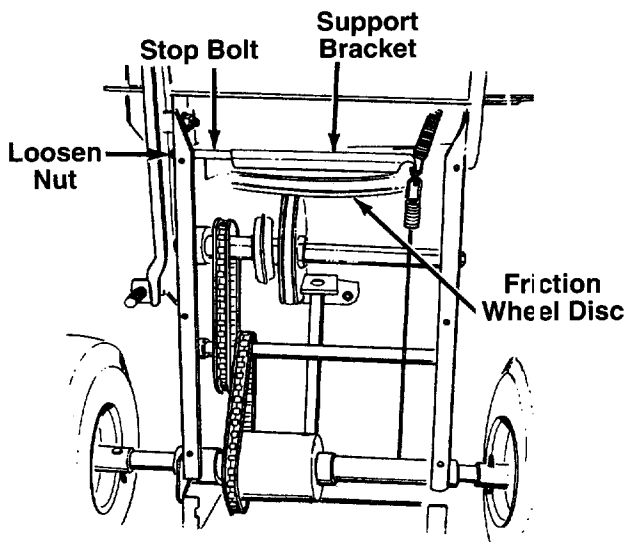

FIGURE 27.
- Loosen the nut on the stop bolt until there is clearance between the support bracket and the friction wheel disc. See figure 27.